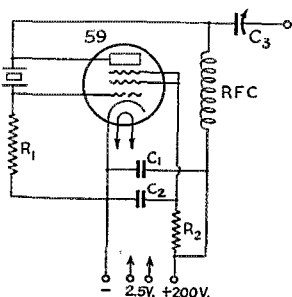

FIG. 1—CIRCUIT OF THE FIXED-TUNED CRYSTAL OSCILLATOR
**A**N OSCILLATOR which is particularly suited to crystal grinding and fixed-tune exciter applications is shown in Fig. 1. Making use of only two 2-watt carbon resistors, two 600-volt